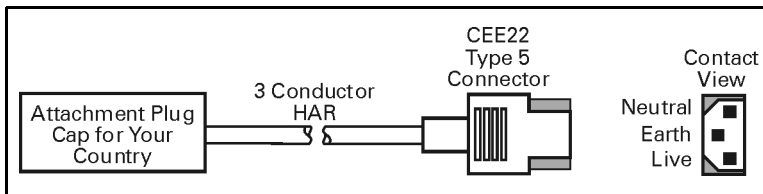

Figure 27
- The CHASSIS GROUND (EARTH) MUST BE CONNECTED to assure safety and reduce electromagnetic interference. This is done by the third wire in the power cord (see Figure 27).